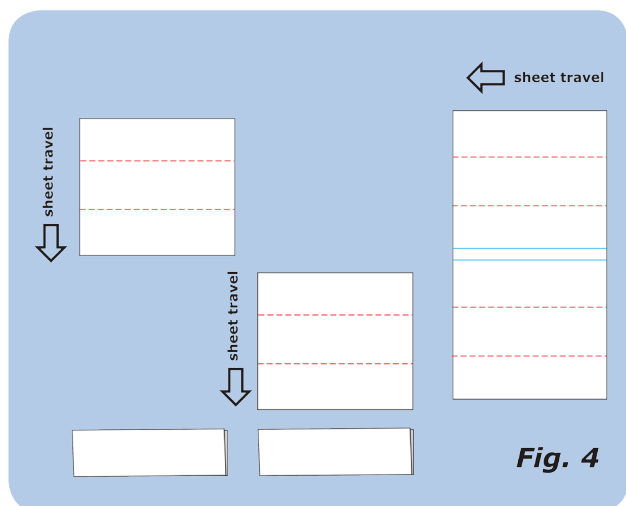

Fig. 4
**Figure 4** illustrates a **technique for running a 2-up job**. Typically (but not always) this requires a split guide on the right angle section. If you do any long runs and a split guide attachment is available, it's well worth the investment since production increases can be huge.